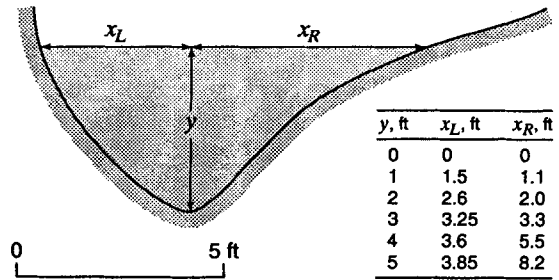

Figure P10.33
Prob. 10.33: Figure P10.33 describes the cross section of an open channel; the sketch is drawn to the scale shown. Hint: The cross-sectional area may be found by planimetry or counting squares and the wetted perimeter by use of dividers.
* From Fig. P10.33 (measurements may vary)